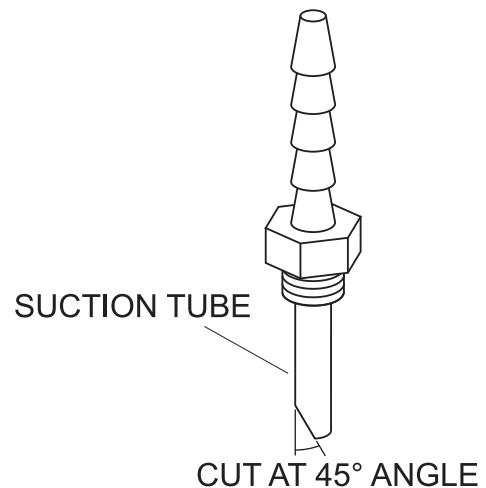

Figure 1. Suction Tube
3. Modify the tube by cutting a 45° angle cut. See Figure 1.